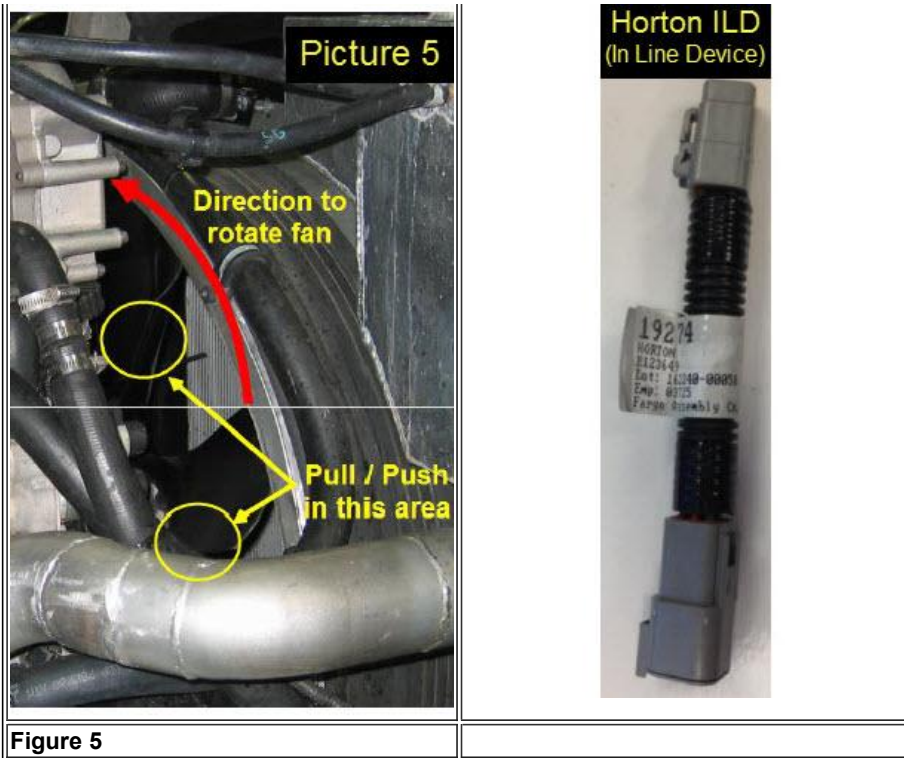

Figure 5
4. Pull / Push fan ON - refer to *Figure 5*.